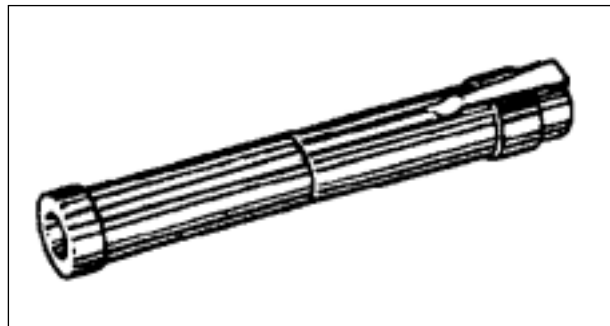

Fig 2-1. IM-143/PD dosimeter.
(1) IM 143/PD dosimeter. This self-reading dosimetric device (fig 2-1) looks like a pencil or pen. Wear it clipped to your pocket.